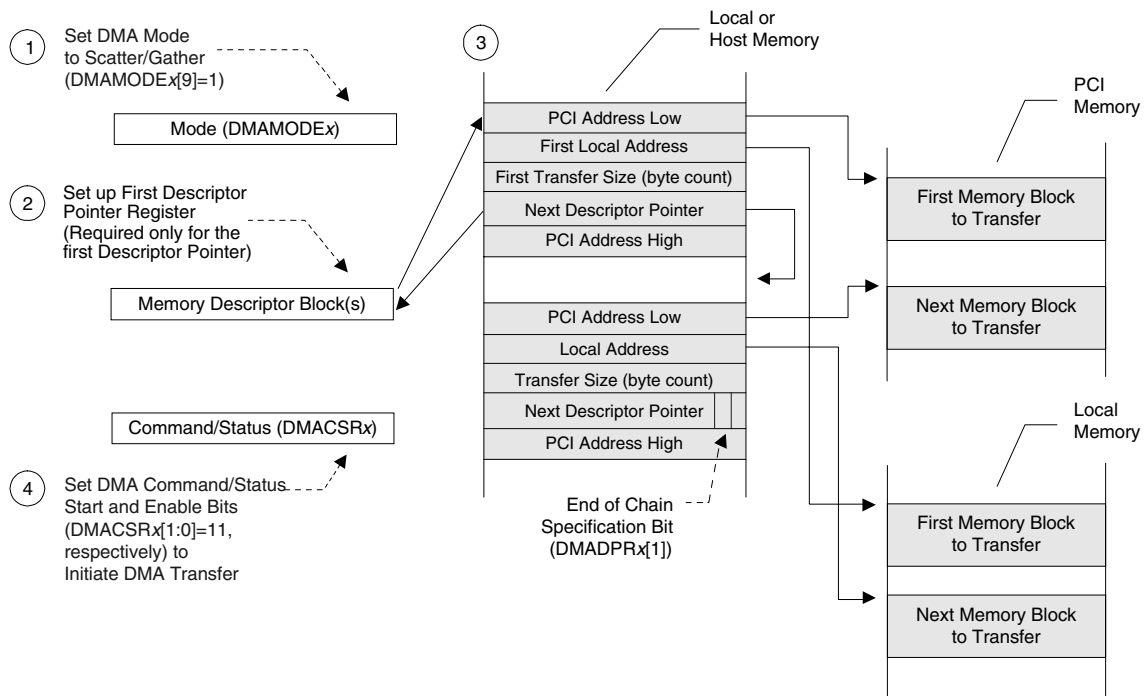

Figure 3-18. DMA Scatter/Gather Mode Descriptor Initialization [DAC PCI Address (DMAMODEx[18]) Descriptor Dependent (PCI Address High Added)]
- DMADACx contain(s) a value of 0h. DMAMODEx[18] is set to 1. The PCI 9056 performs a SAC 5-Lword descriptor block load from PCI memory and DMA transfer with DAC on the PCI Bus. (Refer to Figure 3-18.) The DMA descriptor block starting addresses should be 32-byte-aligned.
- DMADACx contain(s) a non-zero value. DMAMODEx[18] is set to 1. The PCI 9056 performs a SAC 5-Lword descriptor block load from PCI memory and DMA transfer with DAC on the PCI Bus. The fifth descriptor overwrites the value of the DMADACx register(s). (Refer to Figure 3-18.) The DMA descriptor block starting addresses should be 32-byte-aligned.